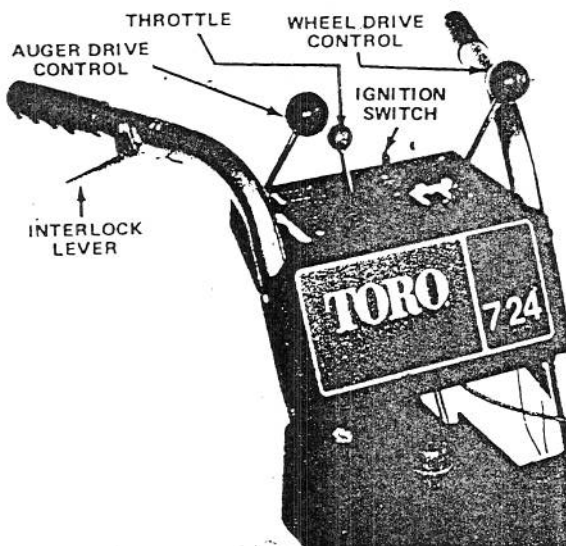

Figure 17
Auger Drive Control (Fig. 17) — Control has two positions: ENGAGE and DISENGAGE. To engage auger and impeller, push control forward until it stops in an over center position. To disengage auger and impeller, pull control backward.
Interlock Lever (Fig. 17) — Interlock lever must be compressed against right handle grip when auger drive or wheel drive control is engaged. The engine will shut off if lever is released when auger drive or wheel drive control is engaged. This is a safety feature that reminds the user to disengage auger drive and wheel drive controls before leaving operator's position behind the handles.
Wheel Drive Control (Fig. 17) — The control has seven positions: N—neutral (2), R1 and R2—reverse, 1, 2, and 3. To change speeds, move gear shift to position desired. Control must be held in R—reverse—when backing; and when it is released, gear shift automatically returns to neutral. Use positions 1, 2, and 3 depending on snow conditions. Keep interlock lever compressed when shifting.
Throttle (Fig. 17) — The variable speed throttle has two positions: FAST and SLOW. Moving the throttle forward increases engine speed. Use only enough engine speed to throw snow to the place desired.
Ignition Switch (Fig. 17) — Switch has two positions: ON and OFF. Rotate key to ON before starting engine with the recoil starter. To stop engine, rotate key to OFF.